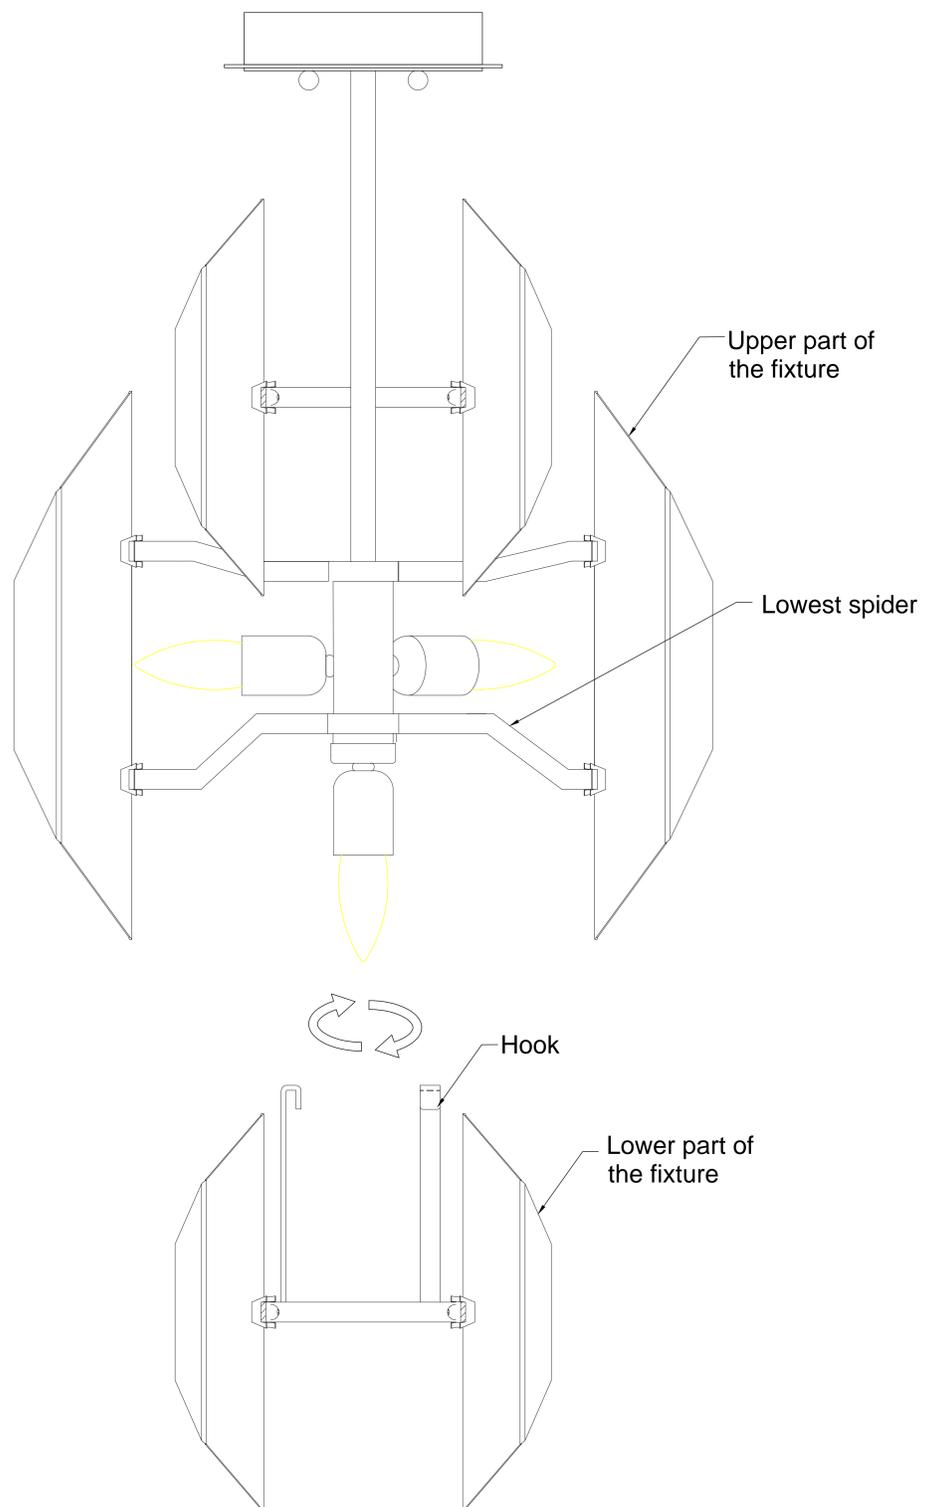

FIGURE-05
10. Attach the lower part of the fixture to the upper part. Align the hook to the lowest spider of the upper part of the fixture then twist and hang it. Make sure to hang every single hook. (See Figure-05)